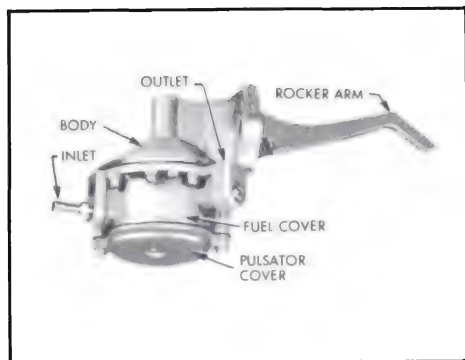

Figure 3-23—Location of Pump Parts
1. Mark edges of fuel cover and pump body with file so that cover may be reinstalled in its original position on body. See Figure 3-23.